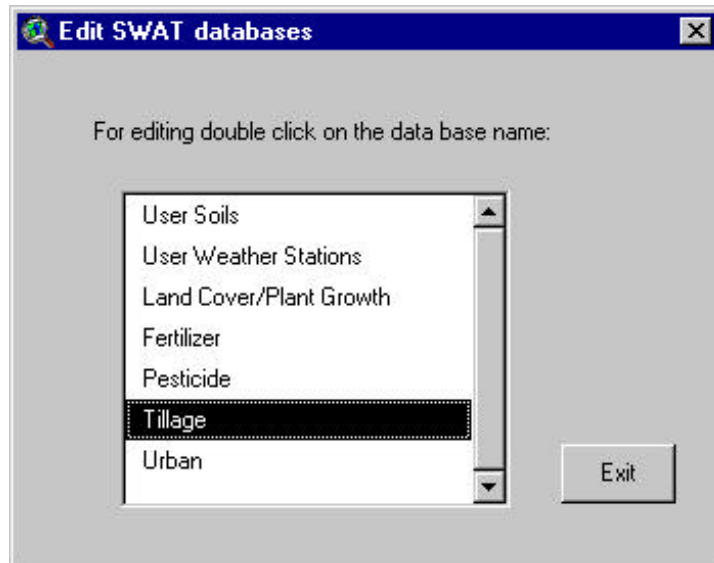

Figure 14.60
1. Double-click **Tillage** on the list of databases (Figure 14.60).